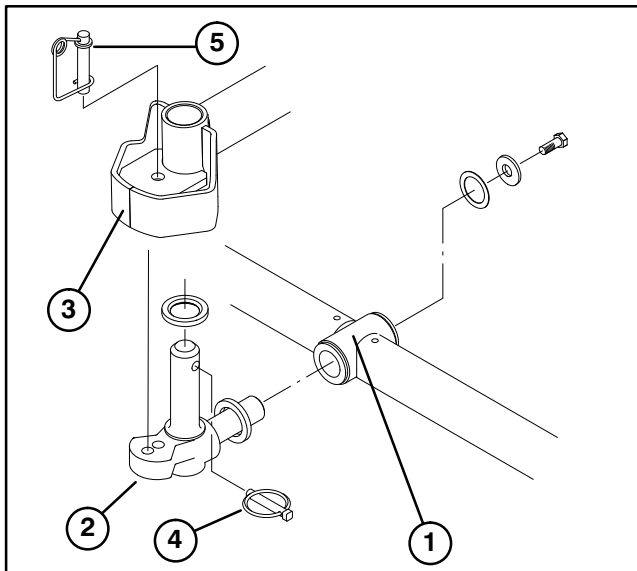

Figure 4
6. Insert a thrust washer onto horizontal shaft of pivot knuckle as shown in figure 4.
7. Insert the horizontal shaft of the pivot knuckle into the mounting tube of the carrier frame (Fig. 4).
8. Secure pivot knuckle to carrier frame with a thrust washer, flat washer and a flange head capscrew (Fig. 4).
9. Insert a thrust washer onto vertical shaft of pivot knuckle (Fig. 4).
10. Insert the vertical shaft of the pivot knuckle into lift arm pivot hub (Fig. 4). Guide the pivot knuckle in place between the two rubber centering bumpers in the under side of the lift arm steering plate.
11. Insert the lynch pin into the cross hole on the pivot knuckle shaft (Fig. 4).
17. If fixed cutting unit position is required, insert steering pin into pivot knuckle mounting hole (Fig. 4)
18. Hook spring wire around bottom of steering pin (Fig. 4).